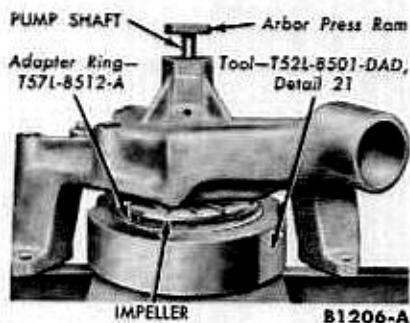

FIG. 8—Impeller Installation
5. Replace the impeller if it is worn or damaged. Coat the seal rubbing face of the impeller lightly with grease. Press the shaft into the impeller (Fig. 8). Press the shaft into the impeller until the pump housing lightly touches the face of the adapter ring. If excessive pressure is exerted on the shaft after the rear face of the housing contacts the adapter ring, the pump bearing will be damaged. Impeller to pump housing clearance is 0.030-0.040 inch.